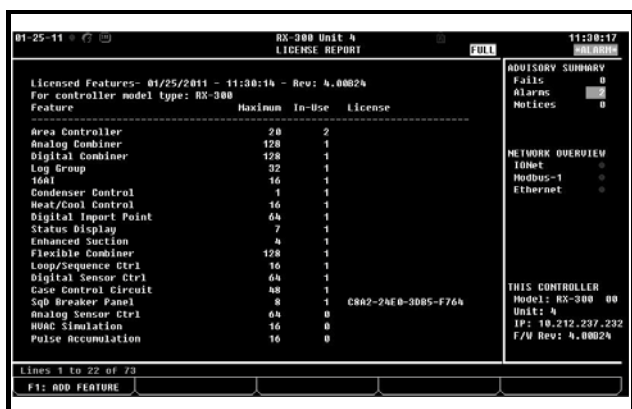

Figure 10-35 - License Report Screen
4. Reboot the controller and open the License Report screen again to see the license key appear next to the activated feature (Figure 10-35):